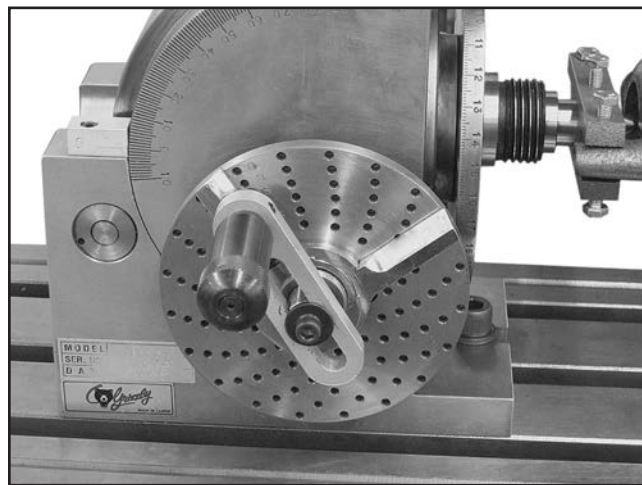

Figure 22. Sector arms correctly spread apart four holes on the 18 hole circle.
7. Move the right sector arm clockwise so that there are four holes showing in the 18 hole circle between the arms, as shown in **Figure 22**.